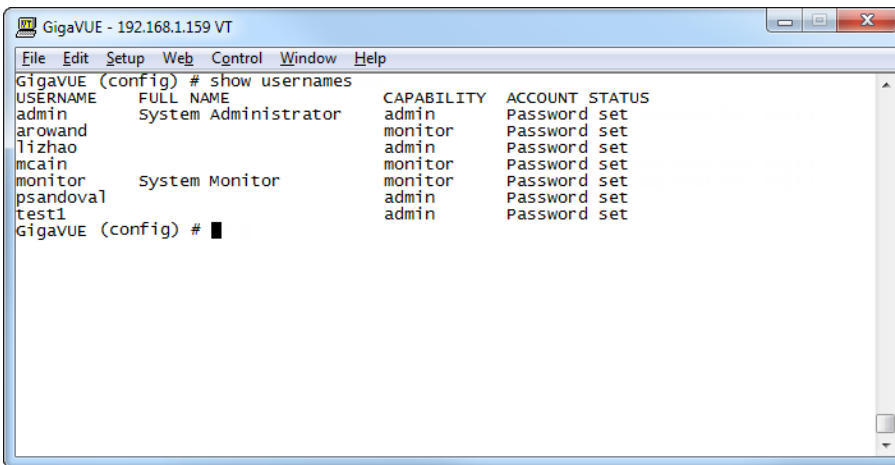

Figure 25 Reviewing the User List
- Once you have configured these basic user accounts, use the **show usernames** command to review your settings. Figure 25 Reviewing the User List shows some sample **show usernames** output after several users have been added.